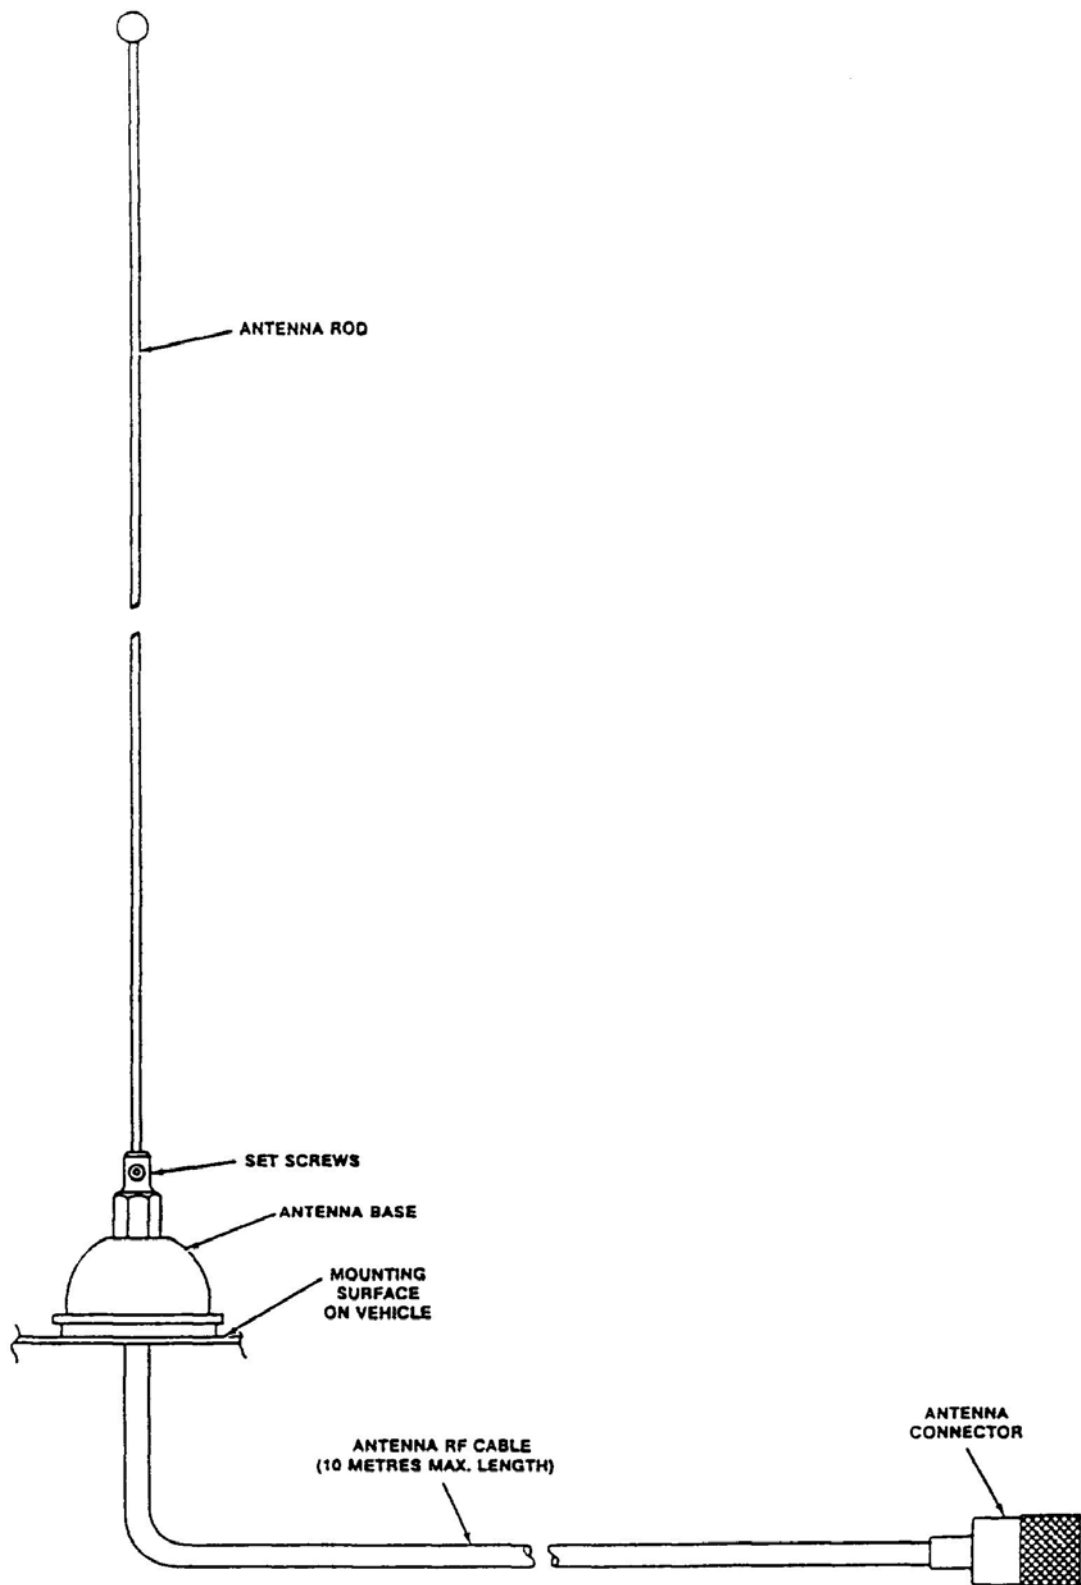

Figure 1-5 Antenna Assembly, P/N 861910-1 - General View
- (e) Antenna Assembly, Part Number 861910-1, is supplied complete as a kit which includes the following items: Antenna Base, which includes a mounting pad, together with a pad, braid nut, sleeve and clamp for termination of the antenna RF cable. The Antenna Rod is supplied with an Allen Wrench for adjustment of its set screws. The Antenna RF Cable is a ten-metre length RG58/U coaxial cable terminated at one end by an UHF, male contact, connector which mates with the UHF, female contact, antenna connector located at the right-rear of the transceiver. The antenna may be mounted on any flat surface, roof, cowl, fender or rear deck of a vehicle, however, rooftop mounting is recommended for best performance. A general view of the antenna assembly is given in Figure 1-5.